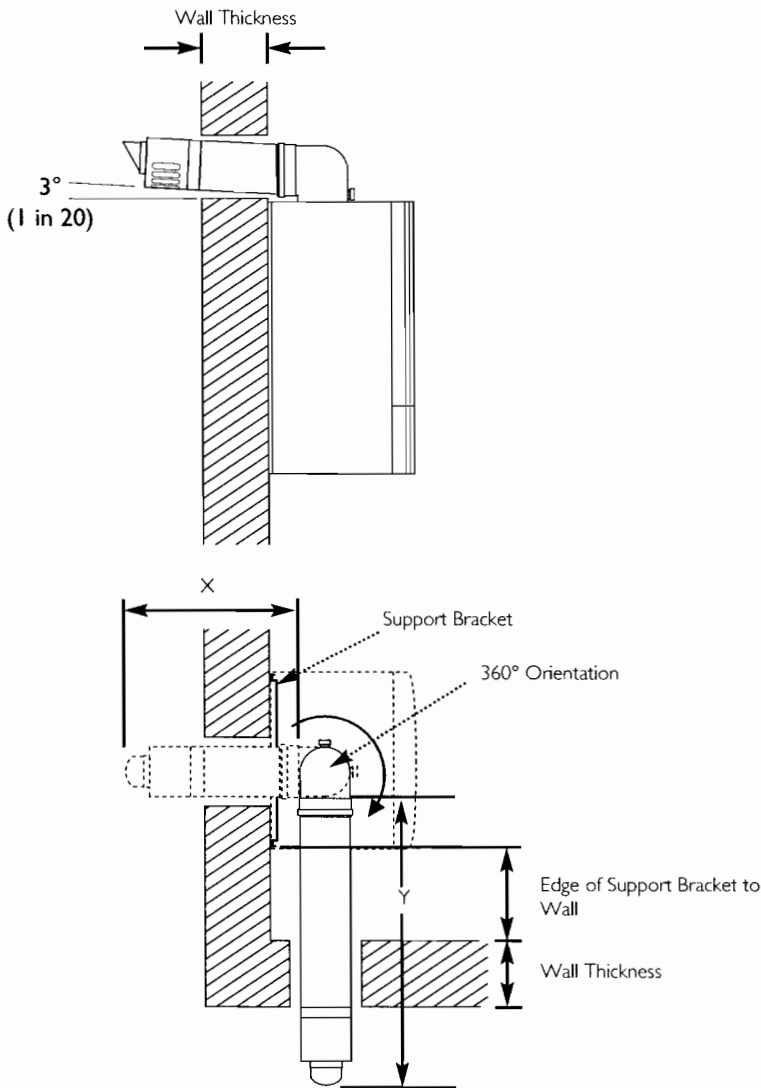
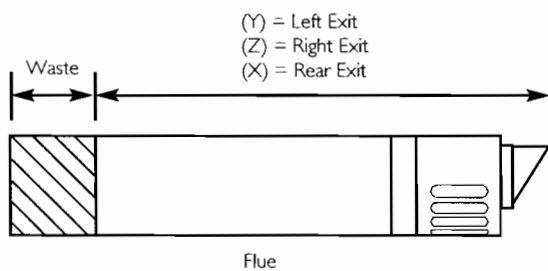

Fig. 21
Fig. 22
2. For rear exit - measure the wall thickness (Fig. 21) and to this dimension add 201mm. This dimension to be known as (X).
i.e. (X) = wall thickness + 201mm
3. Take the flue and mark off (X) from the terminal end as indicated in the diagram (Fig. 22).
4. For left hand exit - measure the distance from the edge of the support bracket to the inner face of the wall (Fig. 21) and to this dimension add the wall thickness + 268mm. This dimension to be known as (Y).
i.e. (Y) = support bracket to wall + wall thickness + 268mm
5. Take the flue and mark off (Y) from the terminal end as indicated (Fig. 22).
6. For right hand exit - measure the distance from the edge of the support bracket to the inner face of the wall and to this dimension add the wall thickness + 343mm. This dimension to be known as (Z).
i.e. (Z) = support bracket to wall + wall thickness + 343mm
7. Take the flue and mark off (Z) from the terminal end as indicated (Fig. 22).